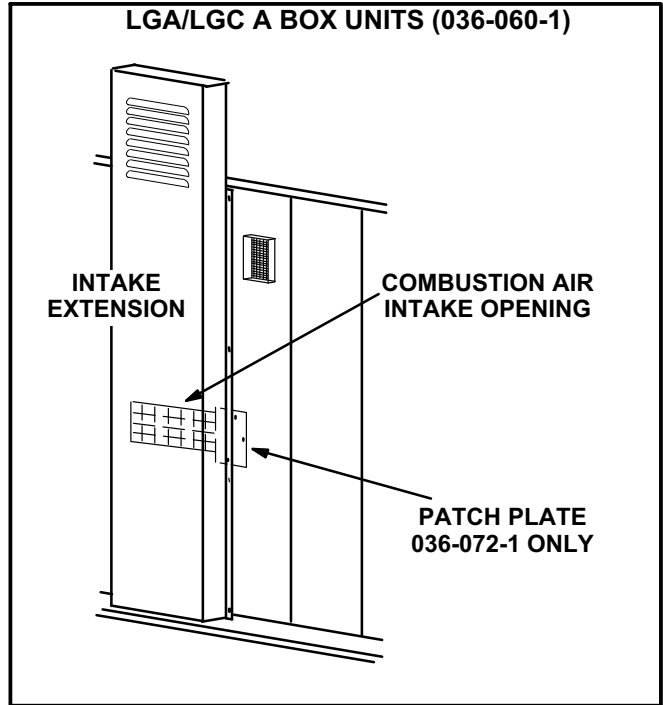
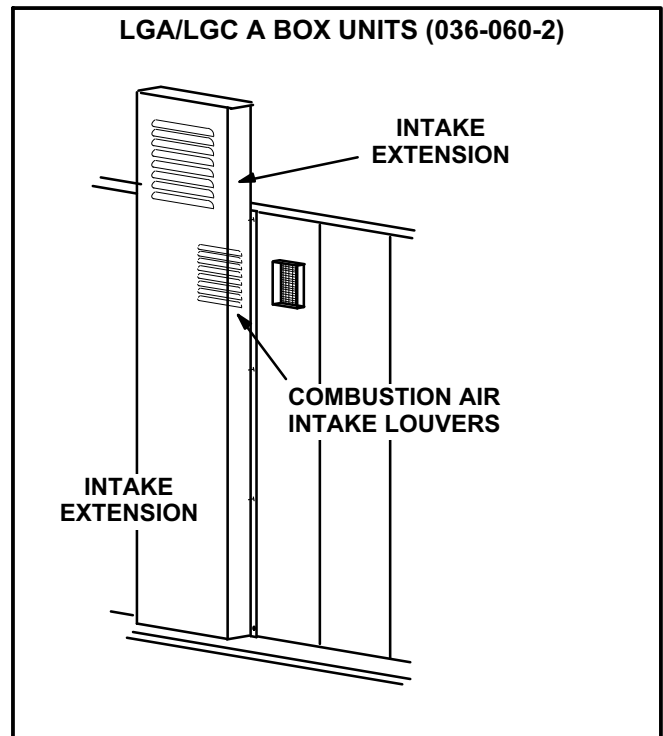
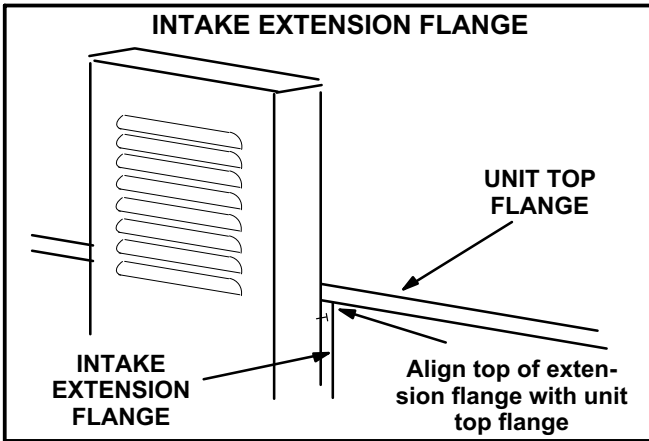

FIGURE 1
FIGURE 2
FIGURE 3
Install patch plate over right side of combustion air intake as shown in figure 1. Secure in place with all
- 3- Install intake extension over combustion air intake louvers. See figure 1 for -1 units and figure 2 for -2 units. Align top of intake extension flange just under unit top flange. See figure 3. Secure in place with screws provided.